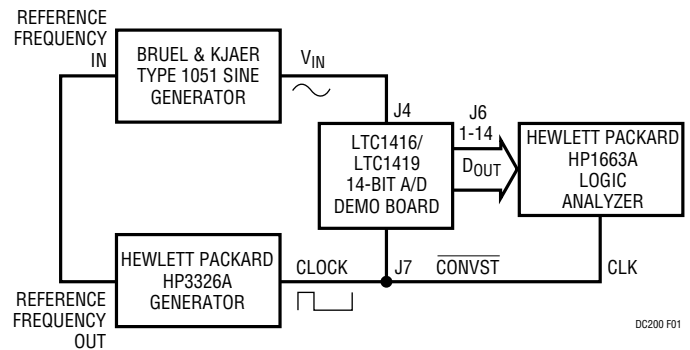

Figure 1. Typical Setup for LTC1419 Demo Board
1. Connect a -7V to -15V supply (J1), 7V to 15V supply (J3), 0V or ground (J2), input test signal generator (J4) and conversion clock source (J7) to the board as shown in Figure 1. As delivered, the board is configured for a ±2.5V input referenced to ground (JP2 and JP4 are shorted). Differential inputs can be converted by removing the shorting connector on JP4. The demonstration board also includes an LT1363 input buffer amplifier operating with a gain of 1. The input signal can be buffered by removing the shorting connector from JP2 and placing it on JP3.
Optimum performance is achieved using a signal source that has low output impedance, is low noise and has low distortion. Signal generators, such as the B & K Type 1051 Sine Generator, give excellent results. Further, this generator can be configured to operate referenced to a master clock signal, as shown in Figure 1.